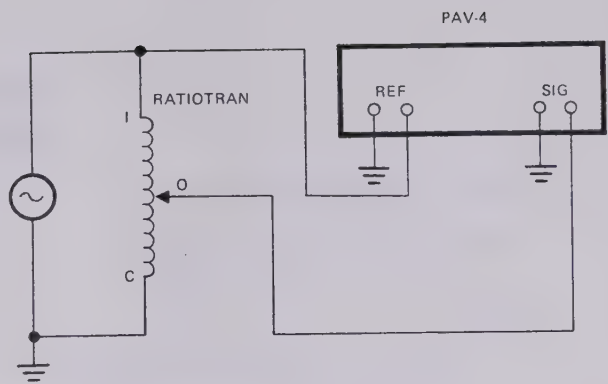

Figure 5-1. Test Setup
- b. Connect PAV into test setup shown in figure 5-1.
- (1) DEGREES switch to 0 degree.
- (2) DEGREES vernier to 0 degree.
- (3) REF LEVEL switch to .03 - 3V.
- (4) VOLTS-RMS to .003.
- (5) VARIABLE VOLTS-RMS to CAL.
- (6) FUNCTION to REF LEVEL.
- a. Connect PAV into test setup shown in figure 5-1.
- (2) DEGREES resistor to 0 degree.